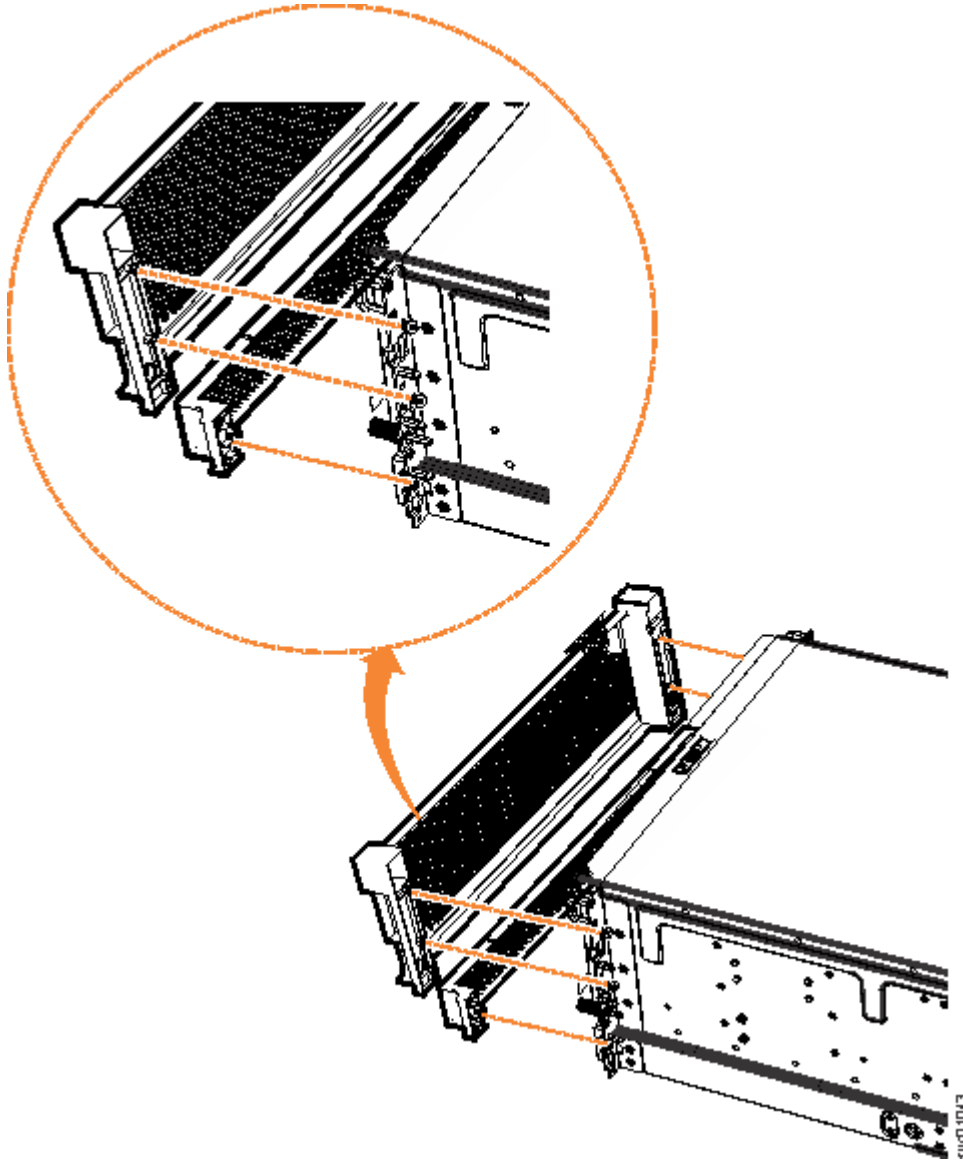

Figure 40. Replace fascia components on the expansion enclosure
1. Align the front 4U fascia with the enclosure so that the thumbscrews go through the holes on each side. As Figure 40 on page 58 shows, this action aligns the screw holes on the back of the fascia with the screw holes on the front flange of the enclosure.
3. Reattach the bottom 1U fascia that covers the power supply units (PSUs). Align the fascia with the enclosure and gently push it until it clicks into place on the chassis, as shown in Figure 40 on page 58.